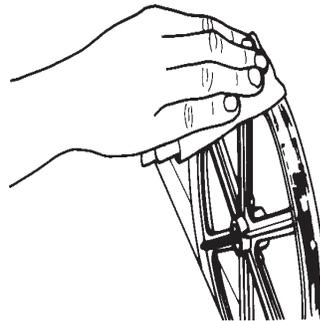

Fig. 11
8. Soak a rag with paint thinner and vigorously wipe the wheel, removing any old rubber bits and adhesive. (See Figure 11.) It is very important that the wheel is completely cleaned and free of all foreign matter.